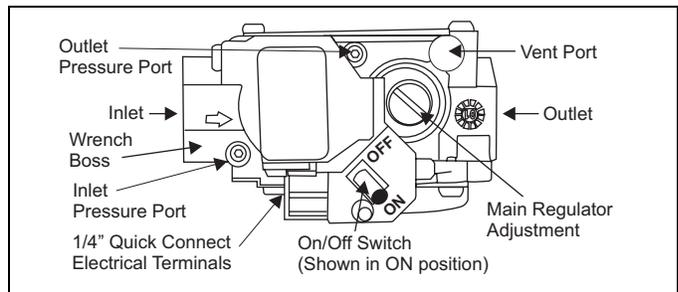

FIGURE 18: Gas Valve
5. Move gas control switch to the "OFF" position. Do not force. See Figure 18.
6. Wait five (5) minutes to clear out any gas. If you then smell gas, STOP! Follow "B" in the safety information above. If you don't smell gas, go to next step.
7. Move gas control switch to the "ON" position. Do not force. See Figure 18.
11. After three (3) trials for ignition, if the appliance will not operate follow the instructions, "TO TURN OFF THE APPLIANCE" and call your service technician or gas supplier.
4. Move gas control switch to the "OFF" position. See Figure 18.
2. Remove the blower and burner compartment access doors. Disconnect the gas supply piping at the union to permit removal of the entire burner and gas control assembly from the vestibule panel. Use the wrench boss on the gas valve when removing or installing this piping. Refer to Figure 18.